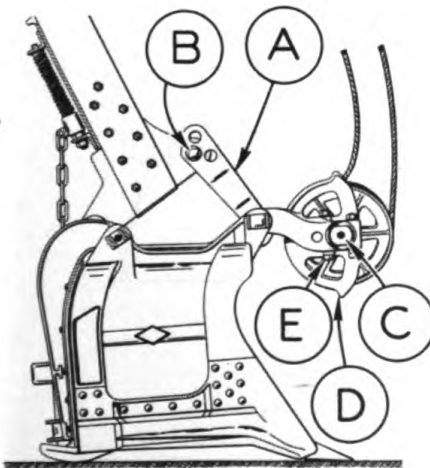

FIGURE 82
**DIPPER ANGLE ADJUSTMENT AND SHEAVE BLOCK BUSHINGS:** (Figure 82)
Set the dipper flat on the ground as shown in Figure 82. Release the crowd drum brake (left brake pedal). Allow a little slack in the hoist cable. Remove bolt (B) from both links. To decrease dipper angle, travel machine forward; to increase dipper angle, travel machine backward - the distance traveled in either direction to be just enough to permit inserting bolt (B) into the next adjusting hole in the links. When the sheave block bushings (C) become badly worn they can be reversed for further use. To reverse the bushings, lower the dipper to the ground and release the hoist cable so that the sheave block (D) tilts forward, as shown in Figure 82. Remove bolts (E). Pull out bushings (C), turn them over and replace. Replace bolts (E) and tighten nuts.